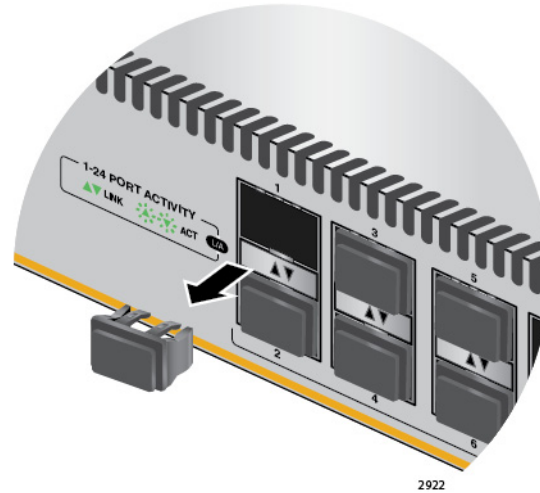

Figure 22. Removing the Dust Plug from an SFP Slot
1. Remove the dust plug from a transceiver slot on the switch. Refer to Figure 22.